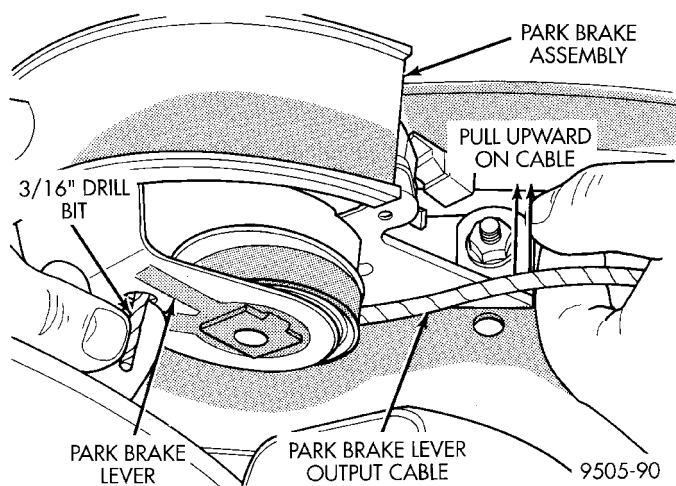

Fig. 128 Locking Pin Installed In Park Brake Mechanism
- (5) Lower park brake lever handle.
- (6) Grasp park brake lever output cable by hand and pull rearward (Fig. 128). Continue pulling on cable until a 3/16 in. drill bit can be inserted into handle and sector gear of park brake mechanism (Fig. 128). This will lock the park brake mechanism and take tension off park brake cables.